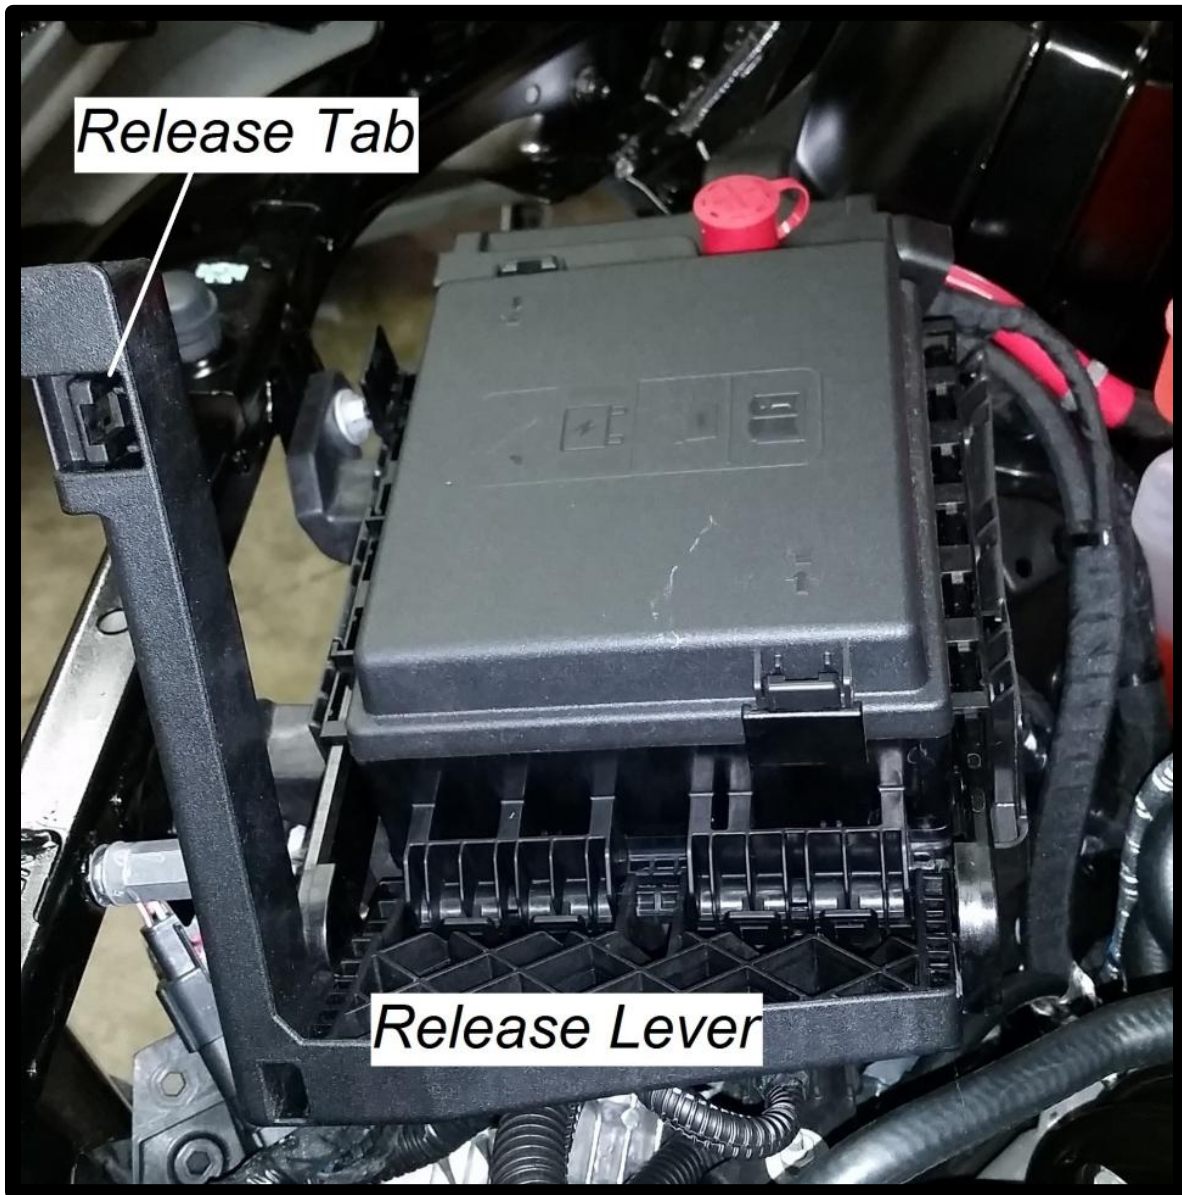

Figure 12: Removing Fuse Box Tray
13. Remove the fuse box tray by pushing the release tab towards the box and lifting the release lever, see Figure 12. Set the tray to the side in order to gain access to the ECU.